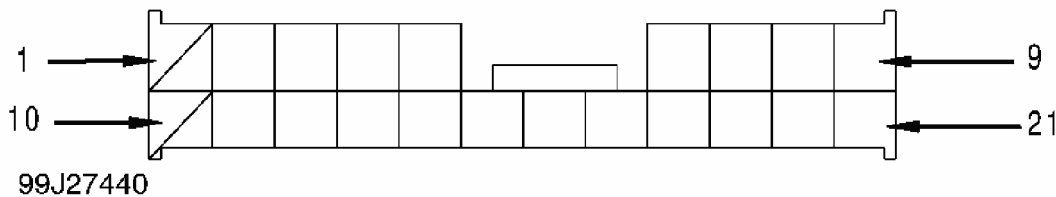

Fig. 54: Identifying Instrument Panel Harness 21-pin Connector C505 Terminals
5. Turn ignition switch to OFF position. Disconnect instrument panel harness 21-pin connector C505 from SRS right side harness. See **Fig. 53** . Turn ignition switch to ON position. Measure voltage between ground and instrument panel harness side of connector C505, terminal No. 4. See **Fig. 54** . If battery voltage is present, open exists in Yellow/Green wire in SRS right side harness. See **WIRING DIAGRAMS** . Replace SRS right side harness. If battery voltage is not present, open exists in Yellow/Green wire in instrument panel harness. Replace instrument panel harness.
9. Disconnect instrument panel harness 21-pin connector C505 from SRS right side harness. See **Fig. 53** . Measure resistance between SRS harness 28-pin connector "B", terminal No. 27 and instrument panel harness side of 21-pin connector C505, terminal No. 2. See **Fig. 40 & Fig. 54** . If resistance is 0-1 ohm, open exists in Blue wire in SRS right side harness. Replace SRS right side harness. If resistance is more than one ohm, go to next step.
5. Turn ignition switch to OFF position. Disconnect instrument panel harness 21-pin connector C505 from SRS right side harness. See **Fig. 53** . Turn ignition switch to ON position. Measure voltage between ground and instrument panel harness side of connector C505, terminal No. 4. See **Fig. 54** . If battery voltage is present, open exists in Yellow/Green wire in SRS right side harness, right front seat harness (if equipped with seat heater) or OPDS unit harness. See **WIRING DIAGRAMS** . Replace appropriate harness. If battery voltage is not present, open exists in Yellow/Green wire in instrument panel harness. Replace instrument panel harness.
9. Disconnect instrument panel harness 21-pin connector C505 from SRS right side harness. See **Fig. 53** . Measure resistance between SRS harness 28-pin connector "B", terminal No. 27 and instrument panel harness side of 21-pin connector C505, terminal No. 2. See **Fig. 40 & Fig. 54** . If resistance is 0-1 ohm, open exists in Blue wire in SRS right side harness, right front seat harness (if equipped with seat heater) or OPDS unit harness. See **WIRING DIAGRAMS** . Replace appropriate harness. If resistance is more than one ohm, go to next step.